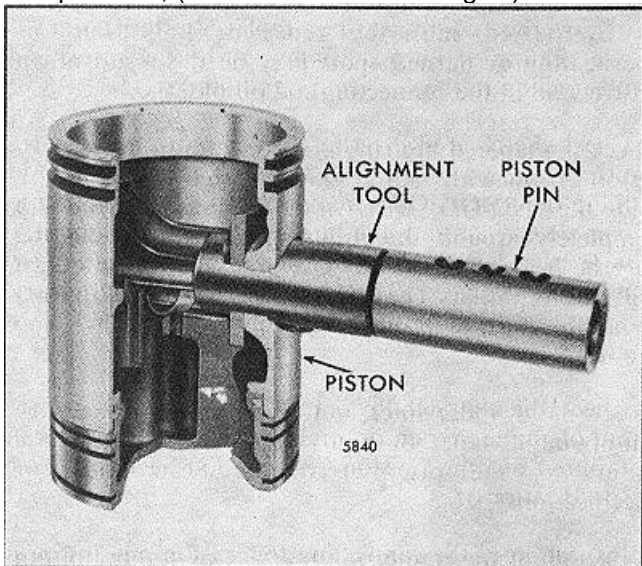

FIG. 19 Installing Piston Pin
4. Lubricate the piston pin with clean engine oil and install it as shown in Fig. 19.